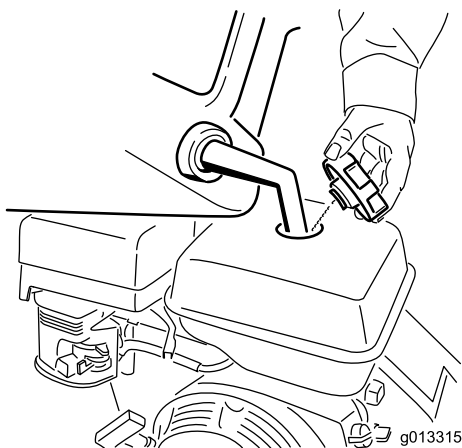

Figure 8
3. Clean around the fuel tank cap and remove it (Figure 8).